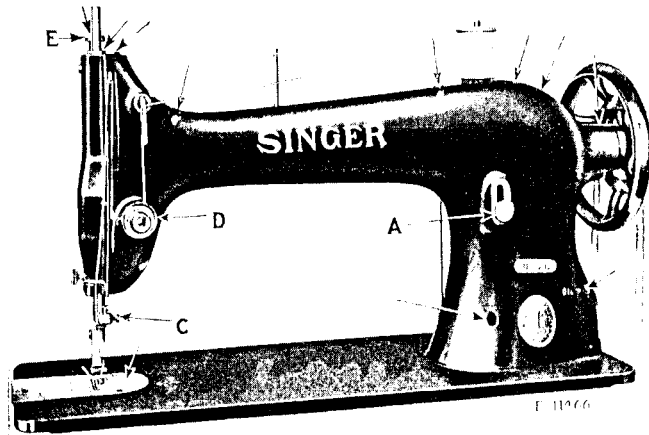

FIG. 2. OILING POINTS AT THE FRONT OF THE MACHINE
Oil should be applied to all oil holes marked "Oil" and to all oiling places indicated by arrows in Figs. 2, 3 and 4.
Turn the balance wheel over toward you until the needle bar moves up to its highest point; loosen the screw (C, Fig. 2, page 4) in the needle clamp and put the needle up into the clamp as far as it will go, with the long groove of the needle toward the left and the eye of the needle directly in line with the arm of the machine, then tighten the screw.
The tension on the needle thread should be regulated only when the presser foot is down. Having lowered the presser foot, turn the small thumb nut (D, Fig. 2) at the front of the tension discs over toward the right to increase the tension. To decrease the tension, turn this thumb nut over toward the left.
The length of stitch is regulated by the thumb screw (A, Fig. 2, page 4) in the slot on the front of the upright part of the arm. To lengthen the stitch, loosen this thumb screw and move it downwardly. To shorten the stitch, loosen this thumb screw and move it upwardly. When the desired length of stitch has been obtained, tighten the thumb screw (A).
The pressure on the material is regulated by the thumb screw (E, Fig. 2, page 4). To increase the pressure, turn this thumb screw over to the right. To decrease the pressure, turn this thumb screw over to the left.